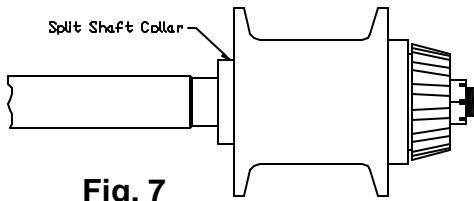

Fig. 7
17) Draw the pinion gear into final position by tightening the nut and torque the nut to 70 foot-pounds. Make certain that the gear has bottomed on the taper and the key has bottomed in the gear keyway. The shim stack should be tight between the gear and the bearing. See Fig. 7
19) Slide the spool toward the rear of the shaft as far as it will go and rotate it to spread the grease onto the bearing cup from the roller bearing. See Fig. 7